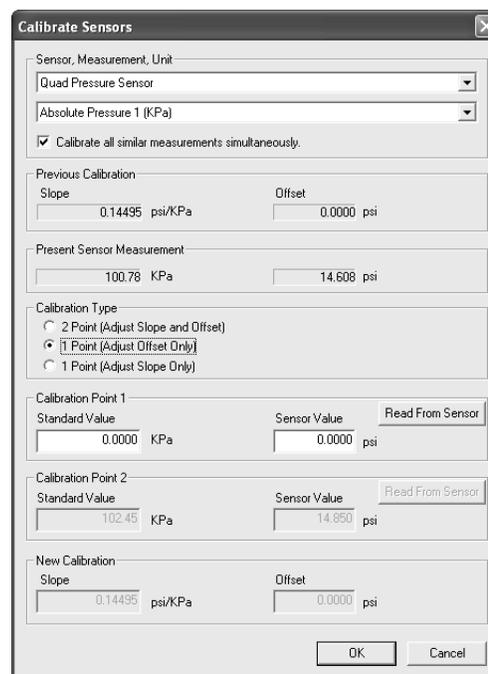

Figure 3: DataStudio calibration window
2. Click the **Calibrate Sensors** button to open the calibration window (see Figure 3).